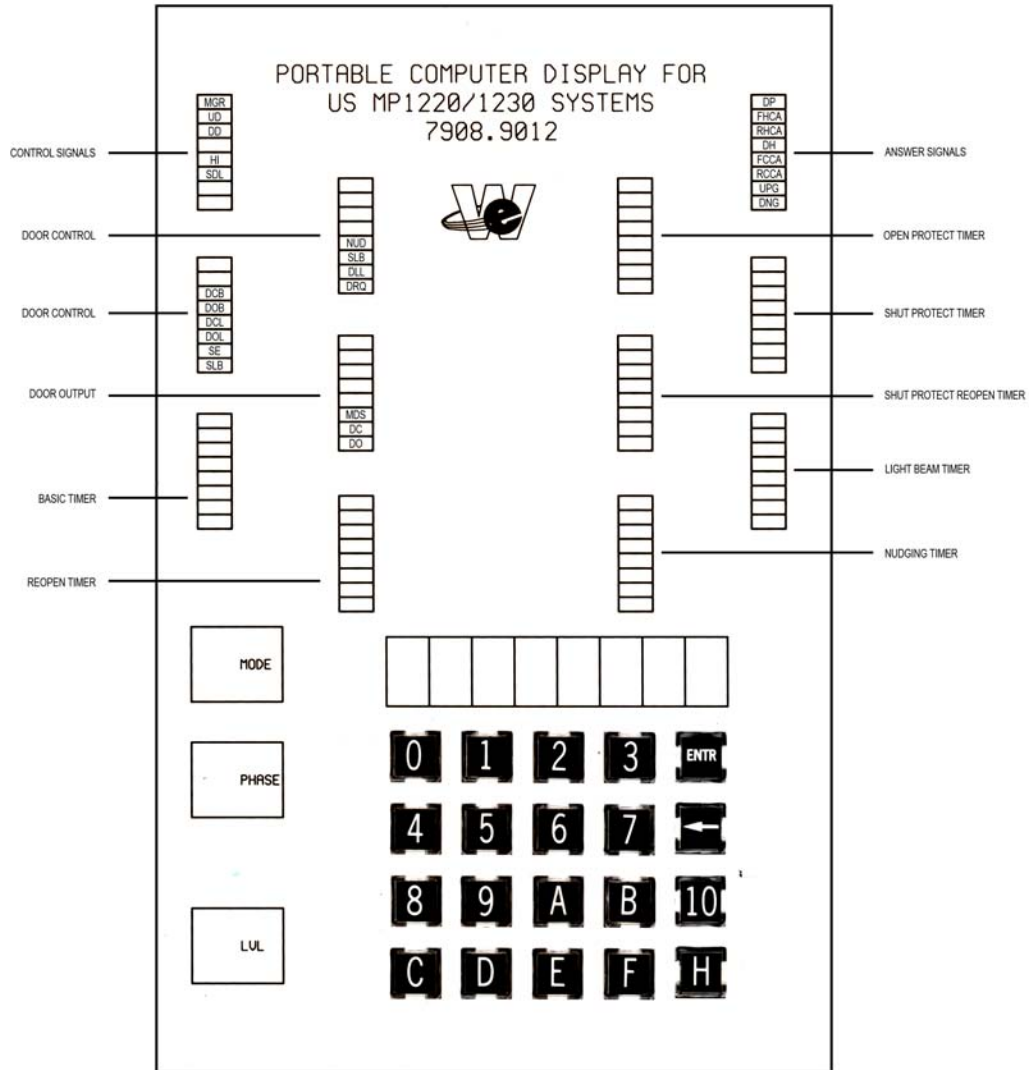

FIGURE 1-5
- 4 = Front Door Signals (Figure 1-5)
- 5 = Rear Door Signals (Figure 1-5)